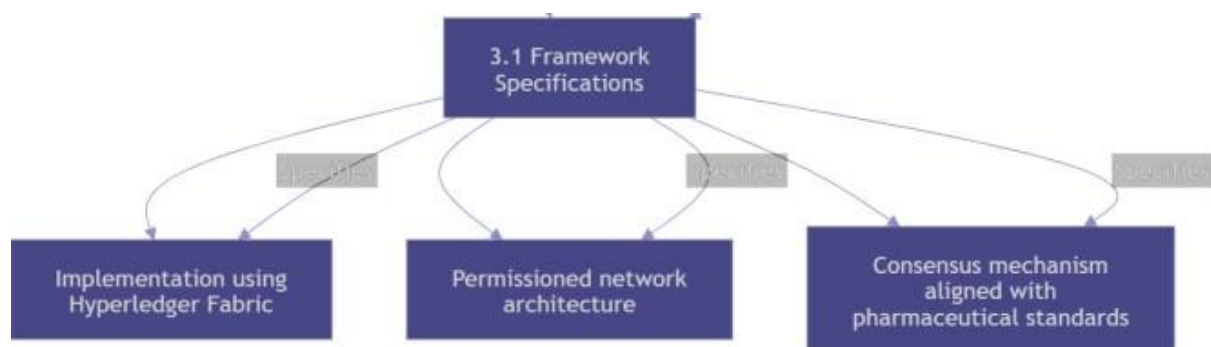

Fig 2: Framework Specification
- Fig 2 shows that only authorised participants can join and interact within the network.